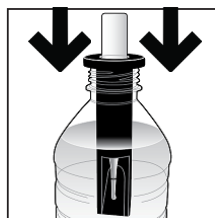

Figure 3
4. Place the Vacu-vial ampoule used in Step #1 above, tip first, into the snapper. Open the bottle of water to be tested and place the snapper with ampoule into the bottle (fig. 3).